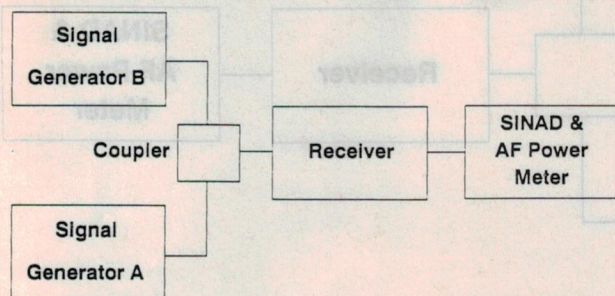

Fig.3.11: Selectivity
- i) Connect the equipment as shown in Fig.3.11.
- Connect the equipment as shown in Fig.3.11.